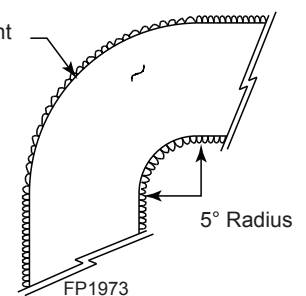

Figure 37 - Minimum Radius for Flex Vent Section
3. Do not allow the flexible vent to bend in radius tighter than UL1777 5" (127 mm). Flex Vent *Figure 37*